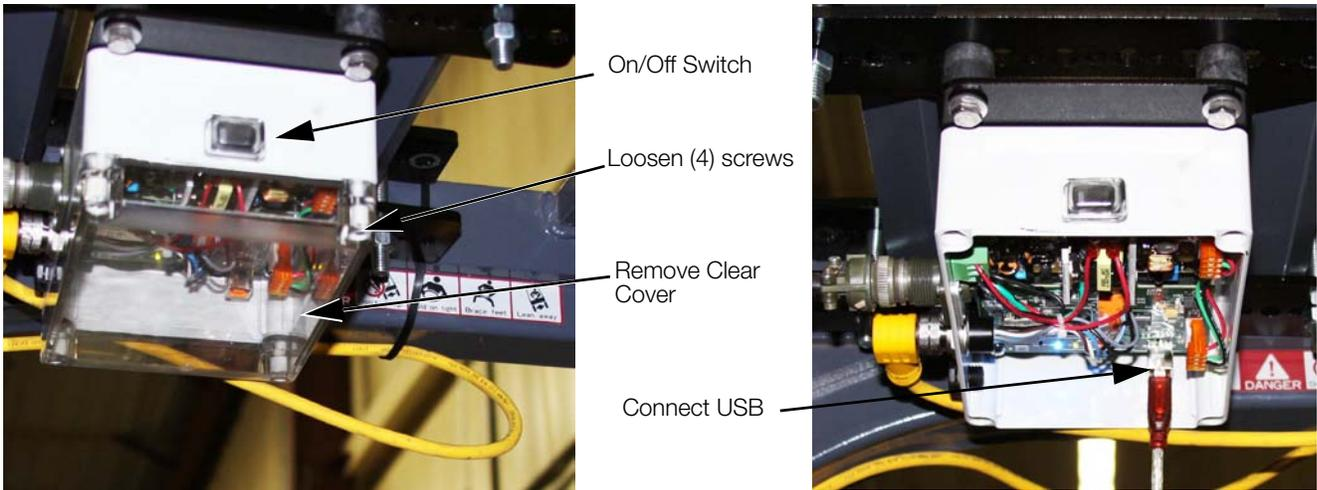

Figure 4-10. Connect USB to Power/Communication Box
2. Loosen (4) screws and remove clear cover from Power/Communication Box (Fig 4-10).
3. Connect USB cable to Power/Communication Box (Fig 4-10).
6. Turn on the Power/Communication Box (See Figure 4-10). Wait for computer to recognize the new hardware.